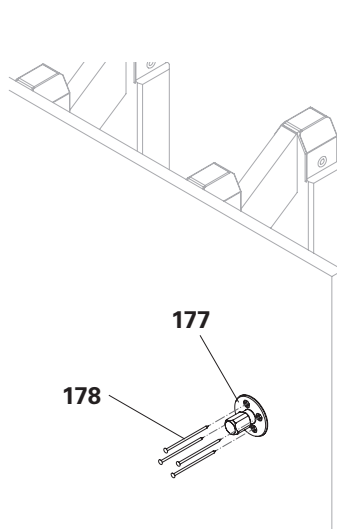

Fig. A3.22
1. Fix the Anchor Positioning Stud M30 (**177**) to the marked position with wire nails 3 x 80 (**178**). (Fig. A3.22)